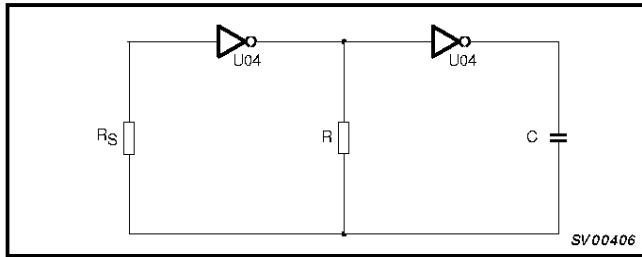

Figure 9. LVU04 used as an astable multivibrator.
- Astable multivibrator (see Figure 9)
Note to Figure 9